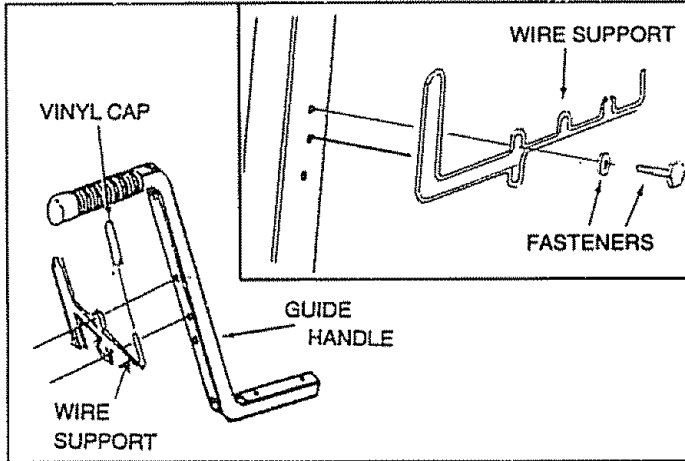

FIG. 3
- Using a 5/16" (8mm) wrench, attach wire support to top two holes of guide handle with #10 self-drilling screws and #10 flat washers (Fig. 3). The hose minder should be to the left and gun holder to the right. Be sure loop of support is pointing upward. Place vinyl cap onto gun holder.